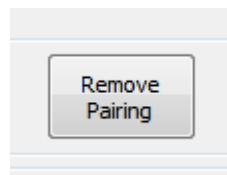

Figure 3.24: KES Demonstrator: Button to Remove Key Bridge Pairing Information on Key Fob
13. Pressing the **Remove Pairing** button on the KES Demonstrator, see Figure 3.24, deletes any key bridge client pairing information present on the Key Fob, allowing a new key bridge client to pair with the Key Fob.